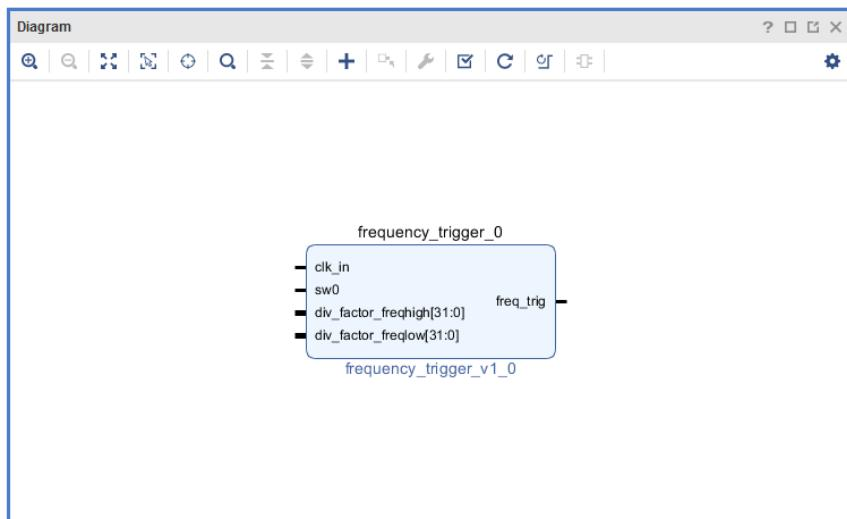

Figure 12.45: Automatically instantiated frequency_trigger_v1_0 core in the IP Integrator design canvas
14. When you find it, press enter on the keyboard or simply double- click on the **frequency_trigger_v1_0** core in the IP Catalog and the selected core will be automatically instantiated into the IP Integrator design canvas, see Figure 12.45.